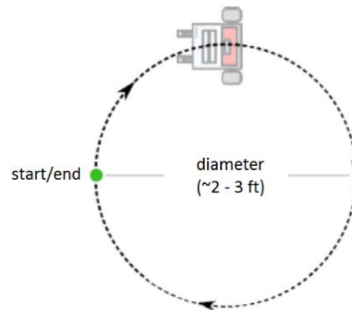

Figure 8: Circle Robot Motion
Part 5 – Circle and Figure 8
1. Write a “`moveCircle()`” function to move the robot in a circle with the diameter and direction as the input (see Figure 8). You should call the `moveCircle()` function from the `loop()` function. Turn on the RED LED when the robot is moving in a circle. *The circle diameter is measured from the center of the robot halfway between the wheels.*
4. Try to adjust the code so that the robot passes through the same center point of the figure 8 each time. You should call the `moveCircle()` function twice to create the `moveFigure8()` function. This means you may need to modify the `moveCircle()` function pass it a direction variable. You should call the `moveFigure8()` function from the `loop()` function. Turn on the RED LED and YELLOW LED when the robot is moving in a figure 8.
5. Use the reference frame shown in Figure 8 for the *goToGoal()* behavior.